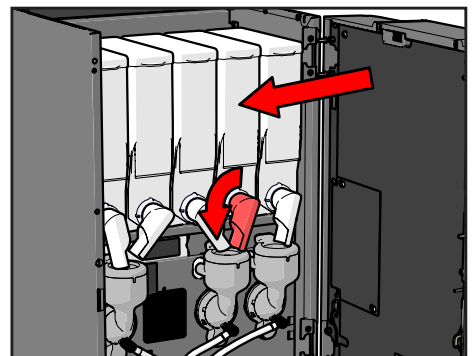

Figure 57.
6. Replace the canister and turn the spout to the correct position (see Figure 57).